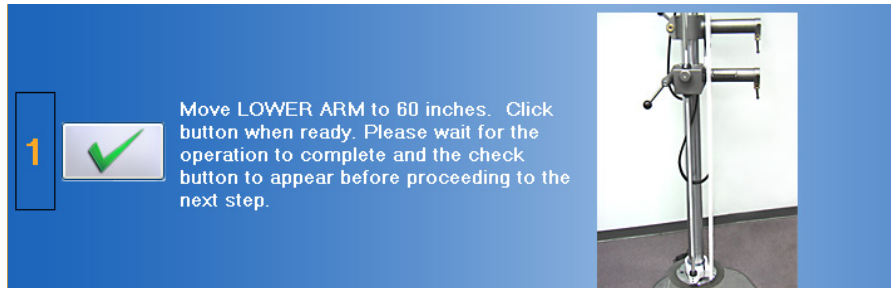

Figure 8-15. Column Lower Arm - Set the Initial Height
Step 2. Click on  to set the initial height (Figure 8-15).